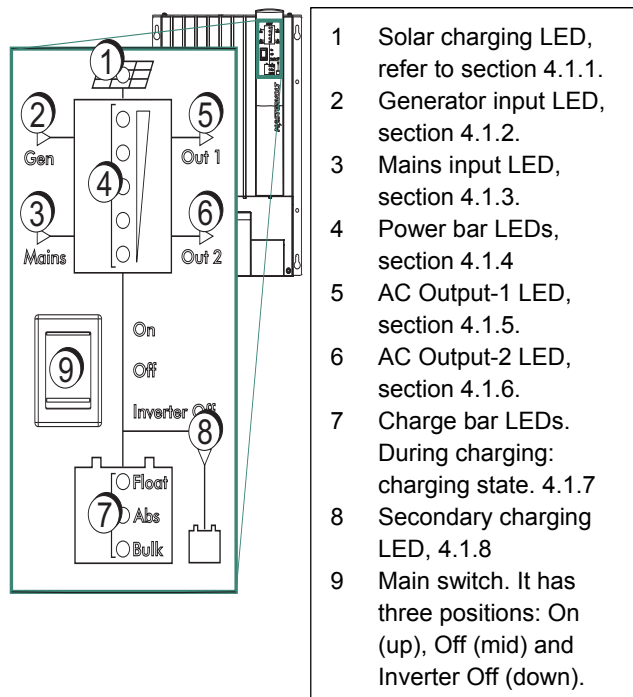

Figure 4-1: Front panel
See figure 4-1. The operation of the Mass Combi Ultra is displayed by means of LED indicators at the front side of the housing. If the Mass Combi Ultra is activated and as long as none of the red indicators are illuminated, no failure is detected and the unit is operating normally.
See figure 4-1 item 1. The illuminating top LED indicates there is a DC input from the PV system. This input is used to charge the secondary battery after converting the voltage.
See figure 4-1 item 2. The arrow is illuminated to indicate the AC from the generator is connected
See figure 4-1 item 3 and 4-3. The arrow is illuminated to indicate there is power input from the Mains connection.
See figure 4-1 item 4. These LEDs have a double function, depending on the mode the Combi Ultra is in.
See figure 4-1 item 5. The illuminated arrow indicates that AC Output-1 is powered.
See figure 4-1 item 6. The illuminated arrow indicates that switched AC Output-2 is powered.
See figure 4-1 item 7. The 3-LED bar has two functions.
See figure 4-1 item 8. The illuminating arrow indicates the secondary battery is being charged.
See figure 4-1 item 9. The only control on the Mass Combi Ultra itself is the main switch on the front of the unit. This switch controls On, Off and Inverter Off (Charger only). Switching the main switch or an optional remote control panel to the "ON" position activates the Mass Combi Ultra. After switching On, expect a three till five second delay before the unit is activated.